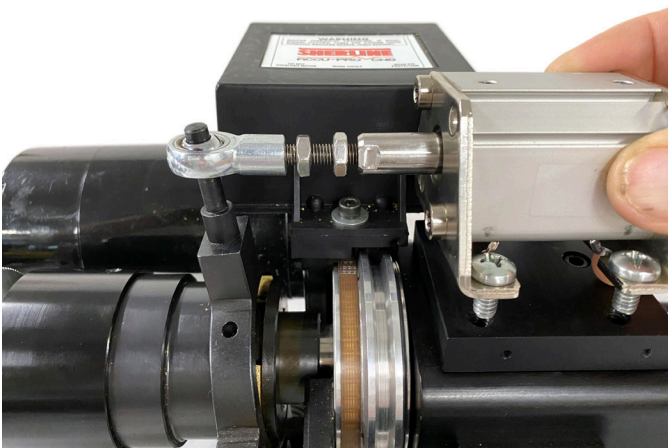

FIGURE 26
G. Once the heim joint assembly length has been adjusted, place the (3) mounting screws (P/N 88060) into the holes in the mounting bracket. Then lower the assembly back onto the headstock mounting plate and the LCC stud (see Figure 26).